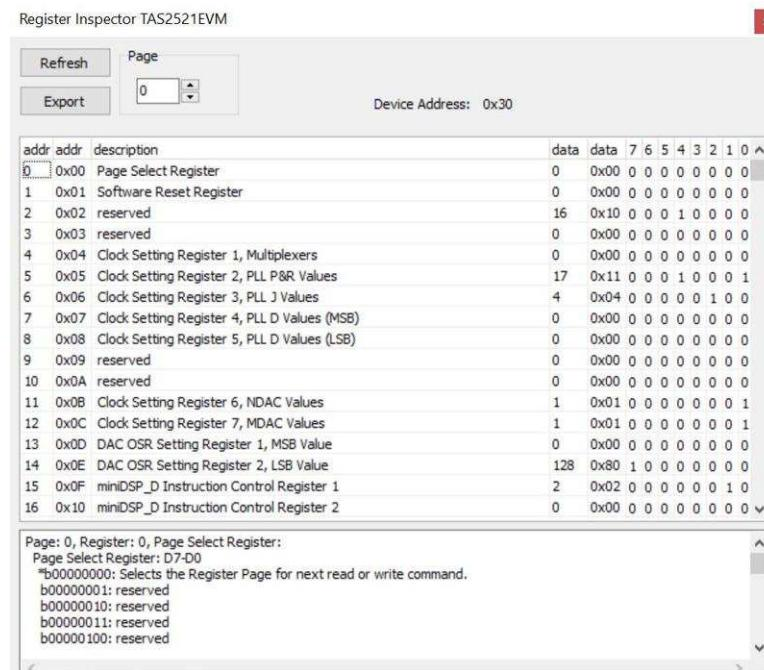

Figure 16. Register Inspector Box
2. Click on *View→Register Inspector...* This will bring up the *Register Inspector* as shown in Figure 16.
2. Click on *View*→*Register Inspector...* This will bring up the *Register Inspector* as shown in Figure 16.